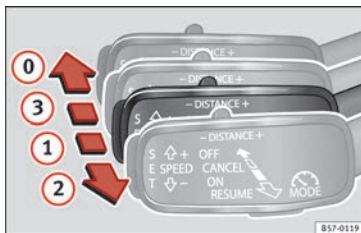

Fig. 182 On the left of the steering column: third lever for operating the Adaptive Cruise Control.
The ACC can be activated again by moving the lever to position ② » Fig. 182.